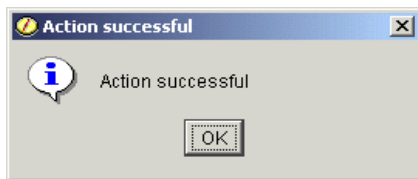

Figure 8-60 Action successful message
2. Click the task you want to verify. Then right-click and select **Status**. In this example, we selected the first Move Processing Power task. The task ran successfully so we received an Action successful message window as shown in Figure 8-60.